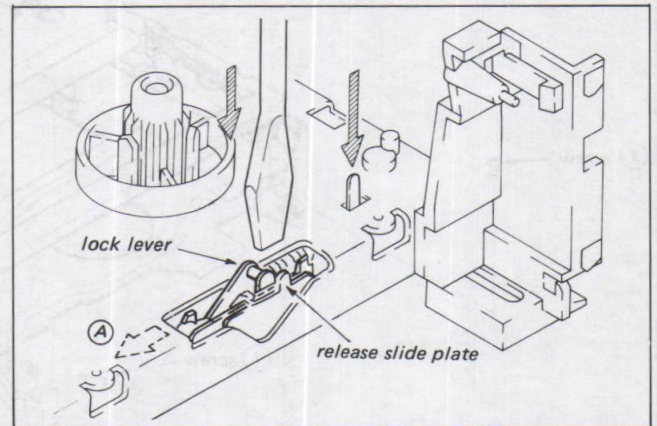

Fig. 3-10.
- 2) Check that the cassette detection switch in Fig. 3-10 does not trip (no click is generated) when pushed.
- 5) Push the release slide plate of the cassette compartment lock in the direction of arrow (A) and push the lock lever assembly in the same direction to return it to the previous state.